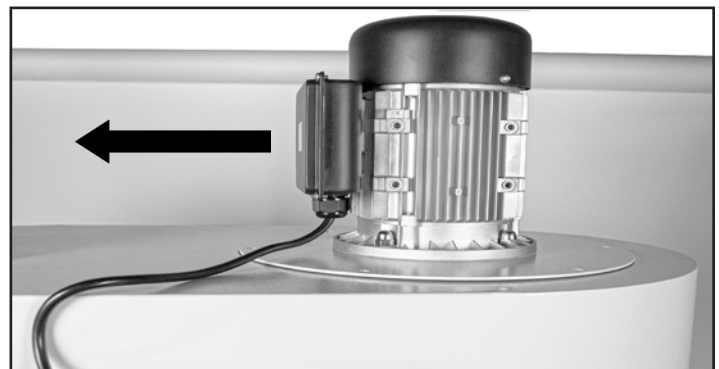

FIG. 12
1. With assistance, lift the Motor and Impeller assembly and install onto the Dust Plenum. Rotate then assembly until the motor wire junction box faces the center of the Dust Plenum. Fig. 12.